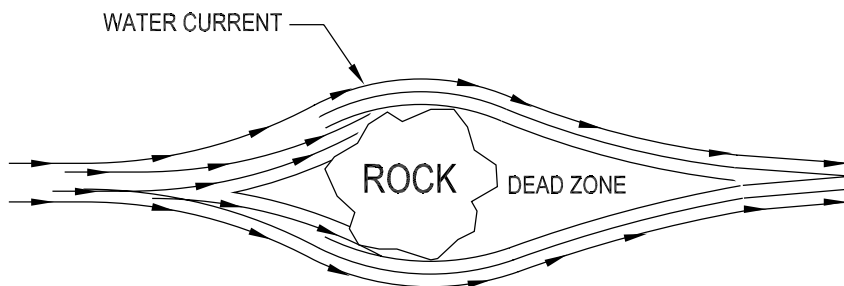

Figure 7. Water current dead zone
6.2.5 Zones of Silence: Large natural or man-made objects can block acoustical transmission under certain conditions, in much the same way that a rock blocks a fast-moving current of water. Close to the backside of the rock, in this example, the current is absent and the water seems still. A short distance away, the current is flowing again (Figure 7).